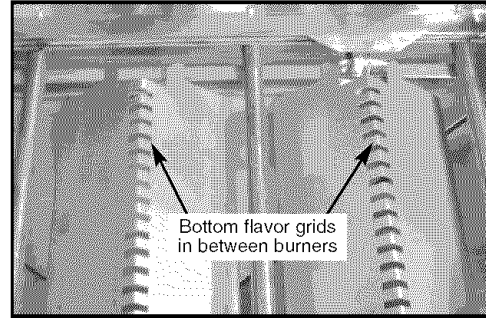

Fig. 12
1. Install the bottom flavor grids in the lower cutouts and around the igniters. (See Fig. 12)